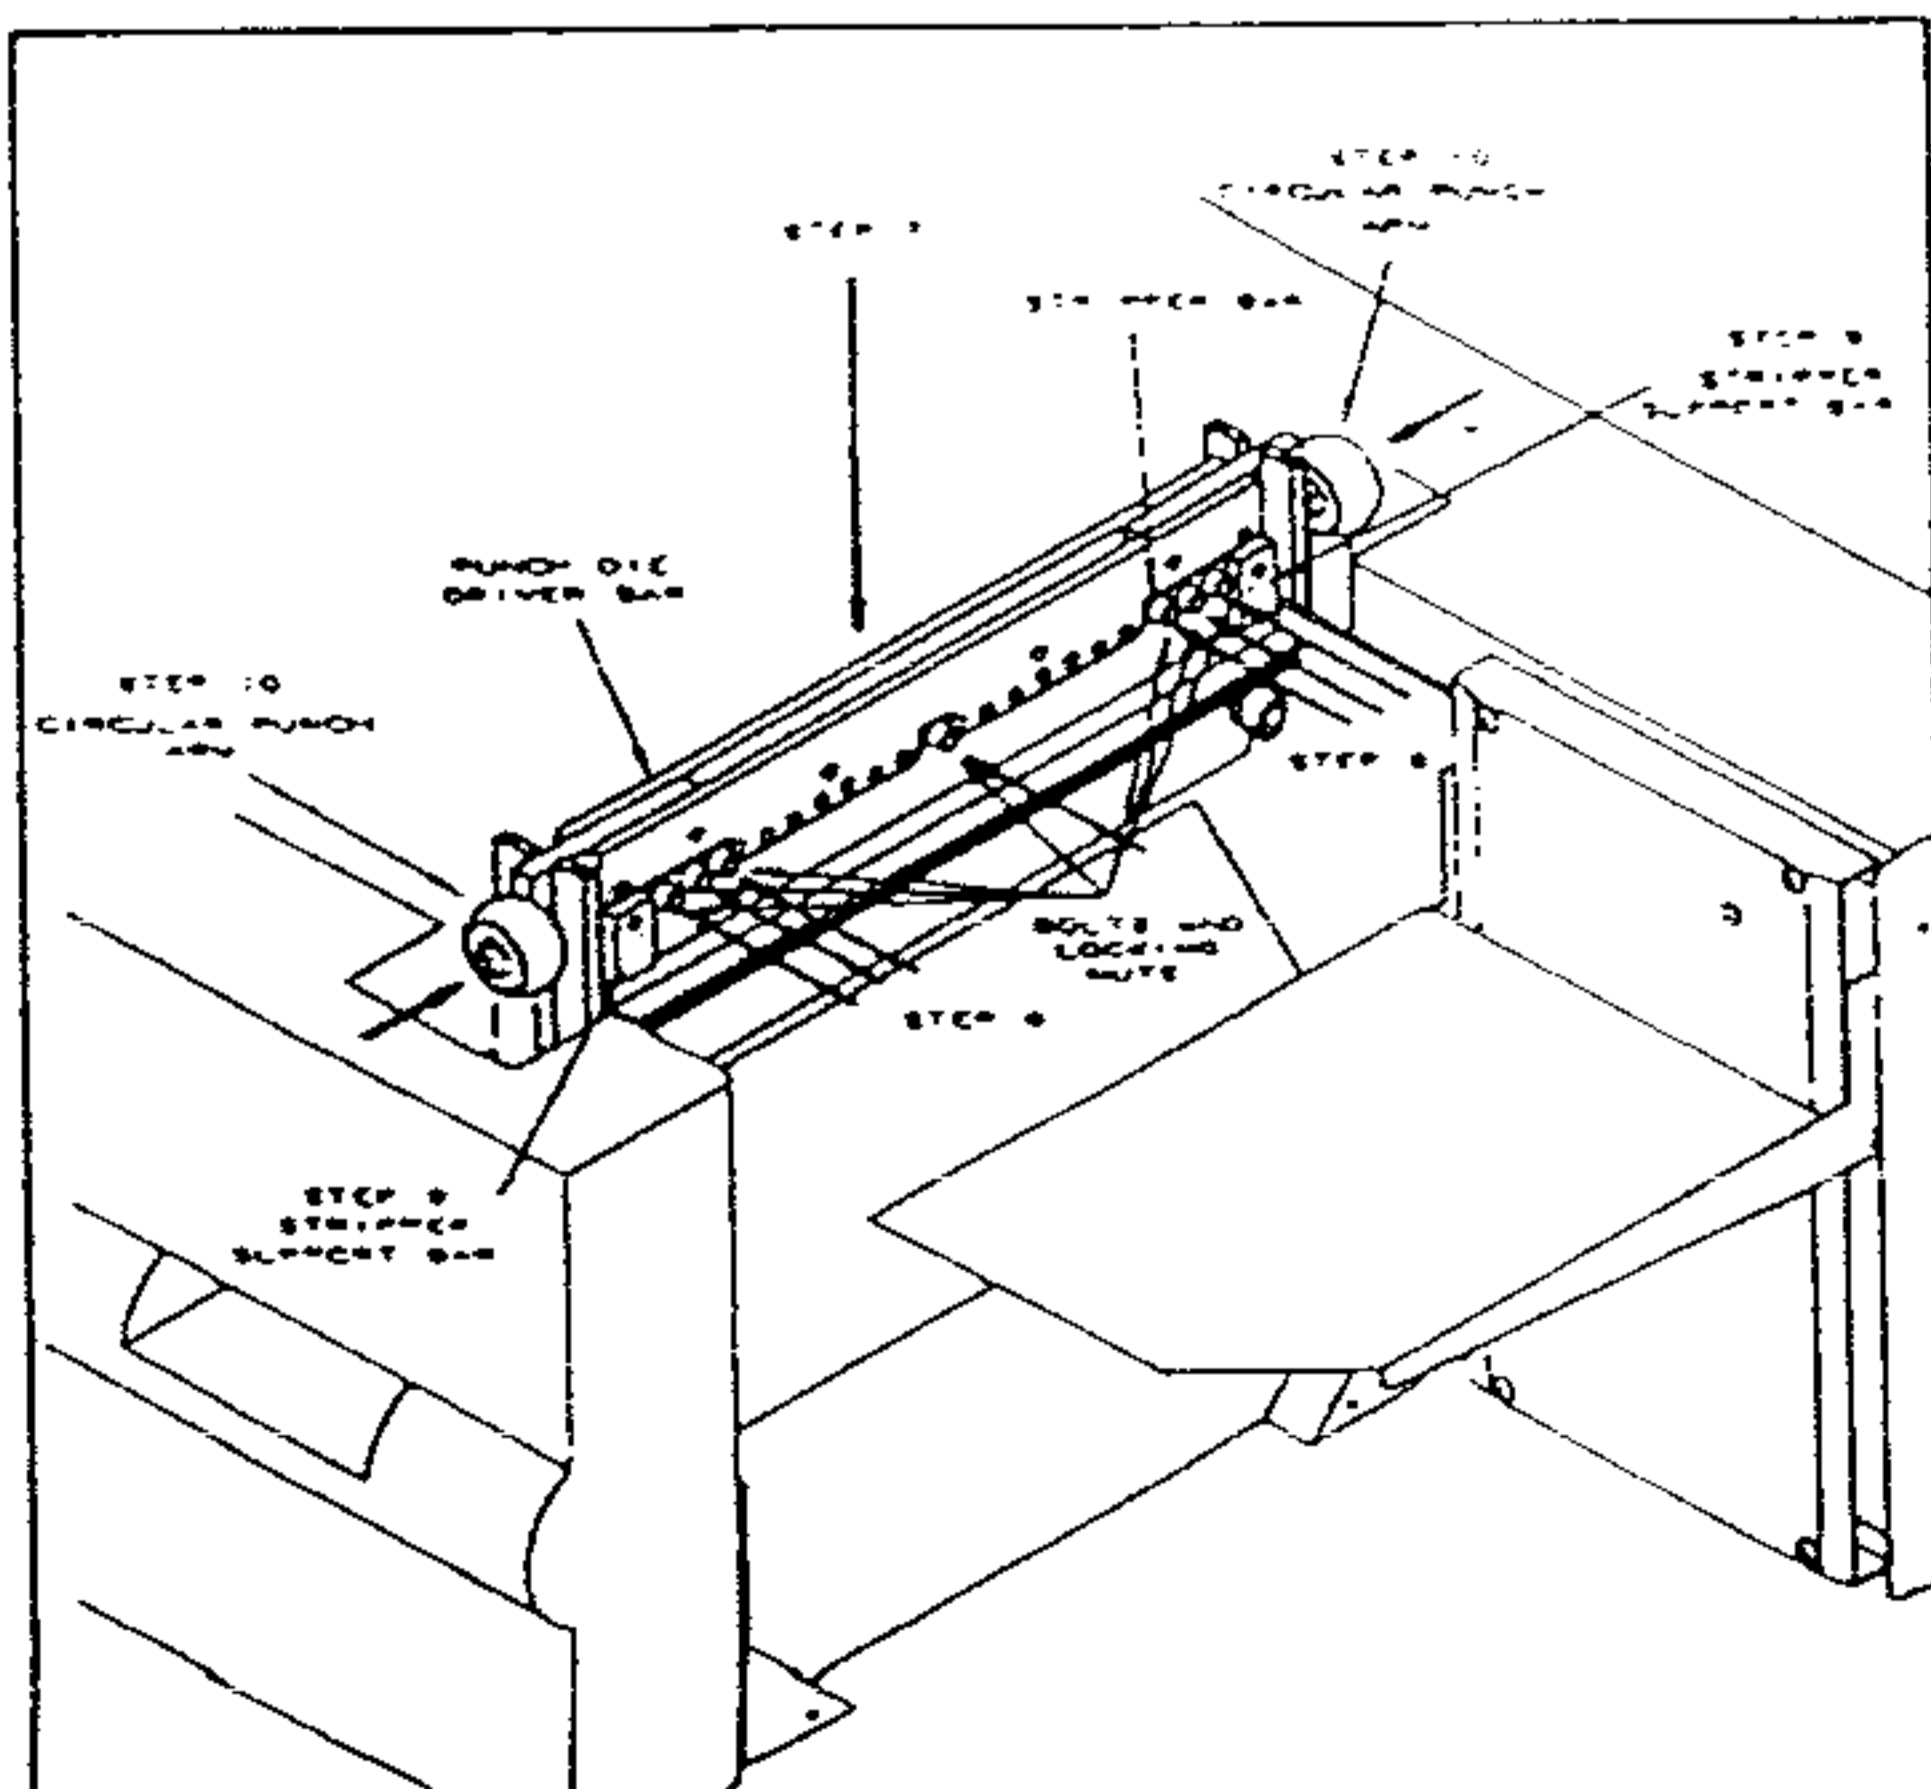

Figure 23
7. Place the punch die driver bar into the slot between the punch guide bars on each side. (See Figure 23)
8. Install the seven (7) bolts through the stripper bar and punch die driver bar, and attach the locking nuts to them. Near the photo sensor use pliers to place the locking nuts in position. Tighten them sufficiently until they are secure, but not enough to flex the punch die driver bar. (See Figure 23)
9. Attach the two (2) stripper support bars to the assembly using the two (2) Allen head screws and washers. (See Figure 23)
10. Slide the circular punch arms onto each end of the punch die driver bar, and secure them with the 1/2" Allen head screw and washer on each side. (See Figure 23)